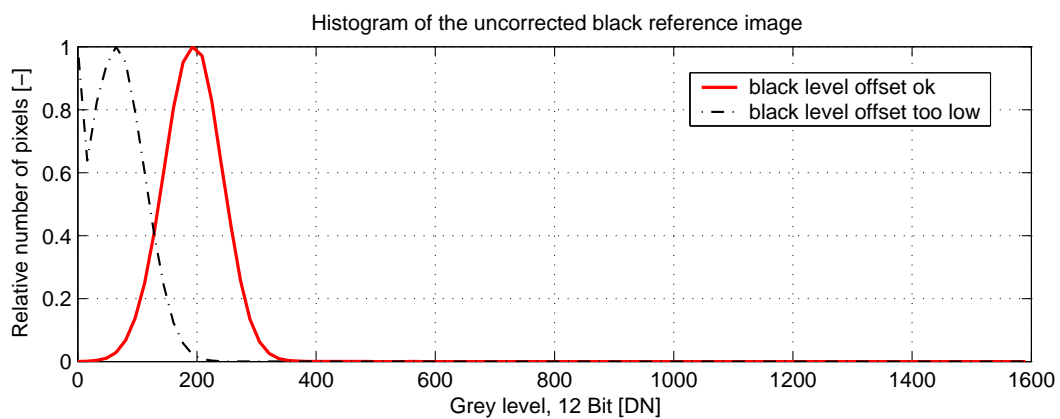

Figure 4.28: Histogram of a proper black reference image for offset correction
- It may be necessary to adjust the black level offset of the camera modules. In the histogram of the black reference image, ideally there are no grey levels at value 0 DN after adjustment of the black level offset. All pixels that are saturated black (0 DN) will not be properly corrected (see Fig. 4.28). The peak in the histogram should be well below the hot pixel threshold of 1008 DN @ 12 bit.